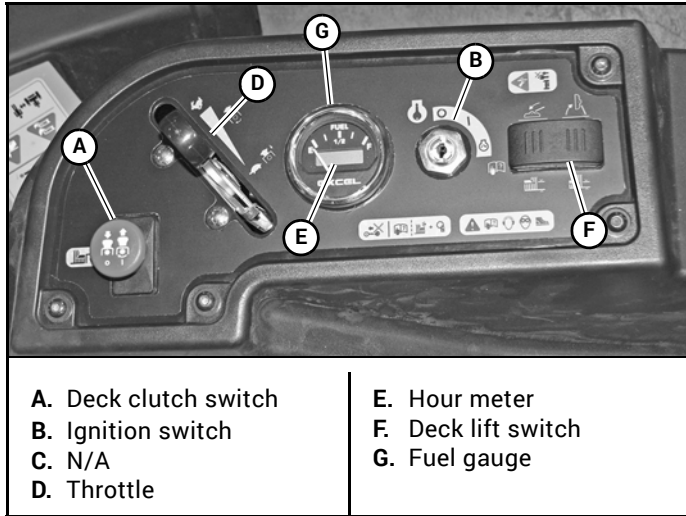
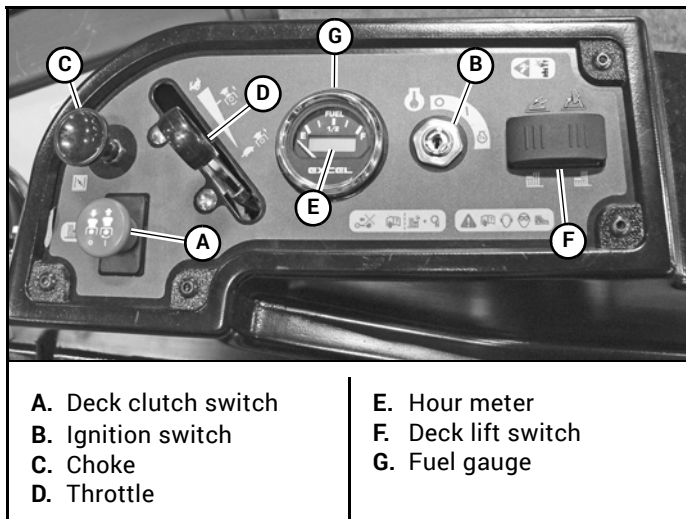

Figure 3-1
Figure 3-2
- A. **Deck clutch switch** (Figure 3-1 & Figure 3-2) – this switch engages the deck. Pull the switch up to engage and push the switch down to disengage the clutch.
- B. **Ignition switch** (Figure 3-1 & Figure 3-2) – a three position switch: “OFF”, “RUN”, and “START”. With the key inserted, rotate it clockwise to the “START” position; release the key when the engine starts, and the switch will automatically return to the “RUN” position.
- C. **Choke control** (Figure 3-2) – a cable is linked to manually operate the engine choke. When the lever is in the down position, the choke is in the “OFF” (run) position. When the knob is pulled up, the choke is in the “ON” (start) position. **Do not** operate the machine in the “ON” (start) position.
- D. **Throttle control** (Figure 3-1 & Figure 3-2) – a cable is linked to the engine throttle for controlling engine speed. Move the lever forward to increase engine rpm, move the lever rearward to decrease engine rpm.
- E. **Electronic hour meter** (Figure 3-1 & Figure 3-2) – registers 1/10 hour increments up to 9,999.9 total hours. It is connected to the ignition switch. It records the accumulative time while the ignition key is switched to the “RUN” position.
- F. **Deck lift switch** (Figure 3-1 & Figure 3-2) – This switch activates the deck lift cylinder to raise and lower the deck. **Figure 3-2**
- G. **Fuel tank gauge** (Figure 3-1 & Figure 3-2) – This gauge shows the fuel level in the fuel tank.